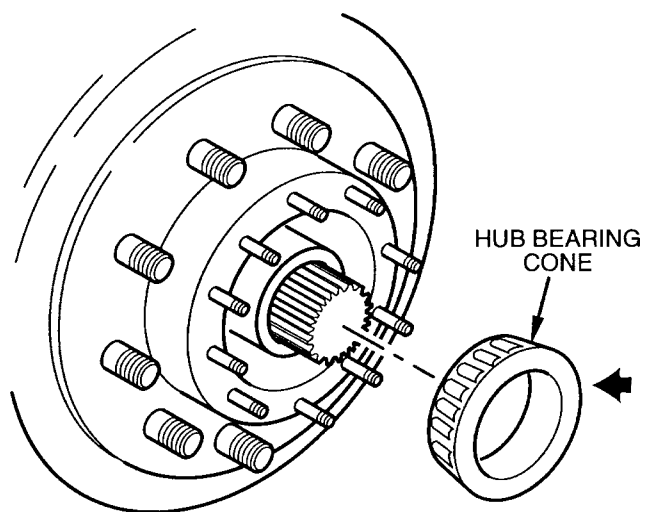

Figure 6 Removing Hub Bearing Cone
5. Pull the outer cone away from the axle and remove the outer wheel bearing cone. (See Figure 6).